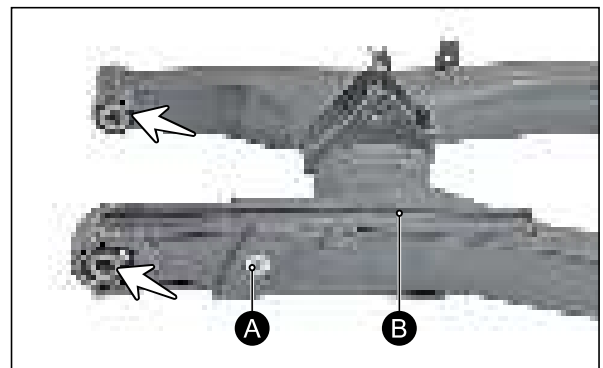

Fig. 6.150
- Remove CRR pan head screw (M6x16 - 1 No.) (A) along with the punched washer and take out buffer chain (B) from the swing arm assembly. (Fig. 6.150)
- Draw out both the bush swinging arm (Fig. 6.150) and check the needle bearing for any damage or abnormality. If found any replace the needle bearing as set. Follow the below procedure described below: